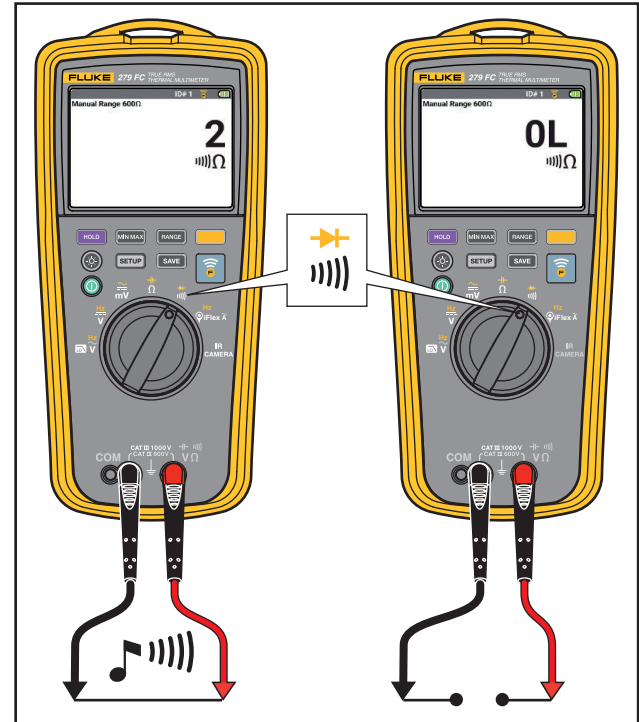

Figure 9. Continuity Tests
- Continuity Test. See Figure 9.
The continuity test uses a beeper that sounds when a closed circuit is sensed. The beeper lets you do continuity tests without the necessity to look at the display. See Figure 9.